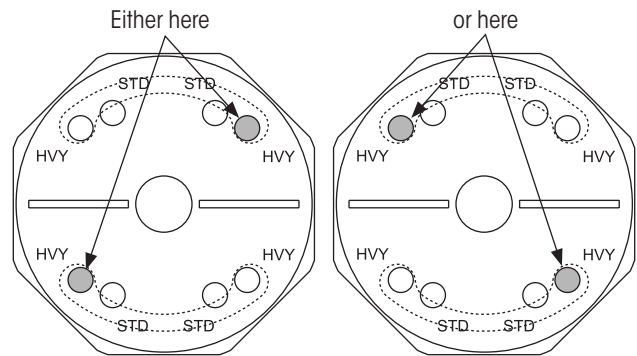

Figure 20: Set screw installation for TF II wide bushing drive plate
9. **(Wide bushing tool ONLY) Configure** set screws in the rear drive plate as shown in Figure 20.
- A. **Thread** the two 4-inch long set screws into diagonally opposite holes in rear drive plate (shown in Figure 20, "HVY" holes only). At least two inches of each set screw must be left exposed on the flat side of the rear drive plate